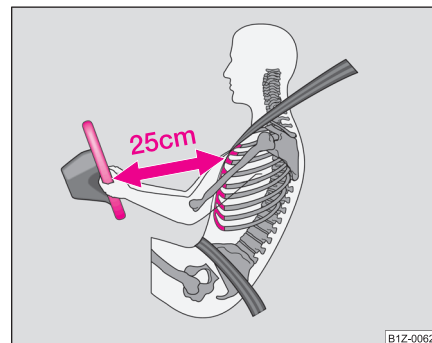

Fig. 116 Safe distance to steering wheel
- For the driver and front passenger it is important to maintain a distance of at least 25 cm from the steering wheel or dash panel ⇒ page 147, fig. 116. Not maintaining this minimum distance will mean that the airbag system will not be able to properly protect you - hazard! The front seats and the head restraints must always also be correctly adjusted to match the body size of the occupant.